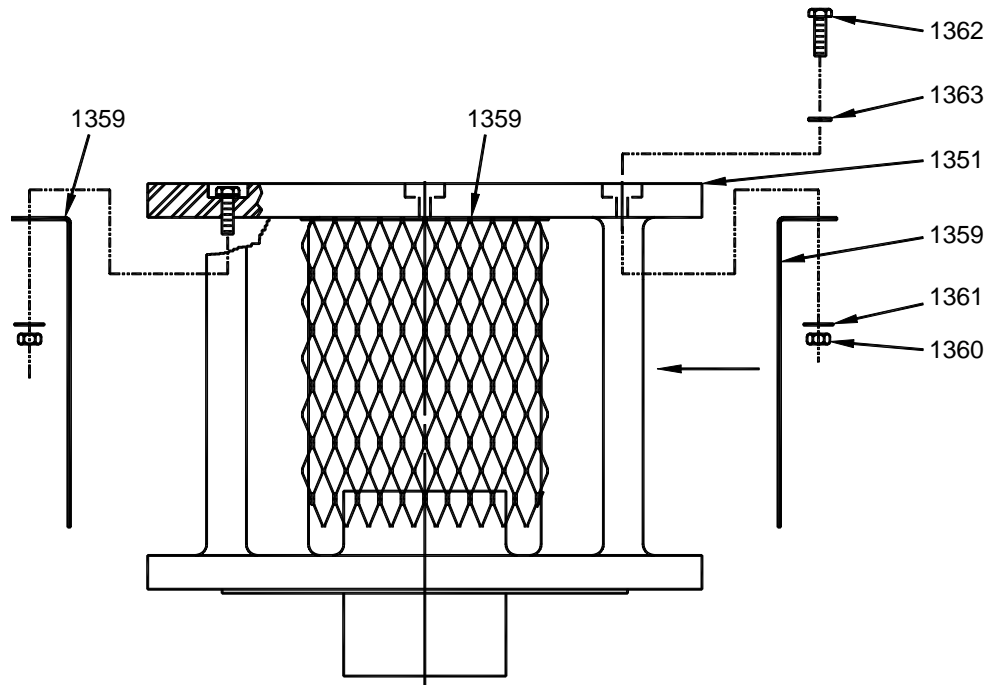

Figure 9: Handhole Cover Installation
13. Install handhole cover bolts [1362] and lockwashers [1353] into pedestal [1351] counterbores, reference *Figure 9, below*. Install handhole covers [1359], flatwashers [1361] and hex nuts [1360].